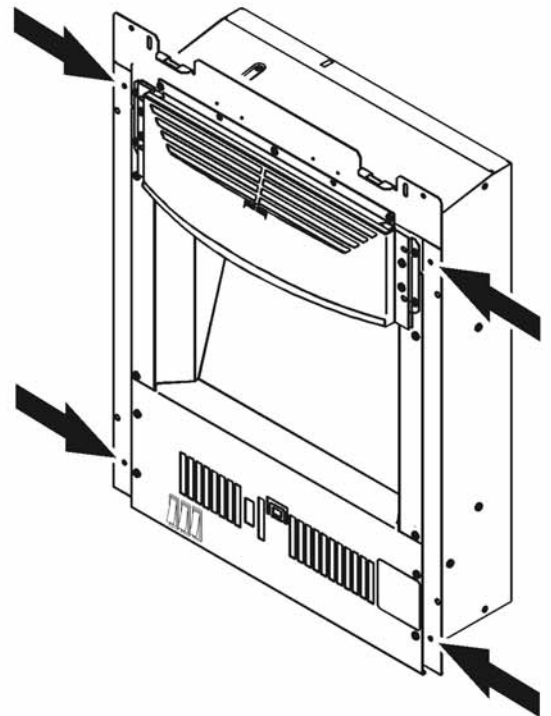

Figure 10. Fitting the optional spacer frame to the heater
Although this section deals with fireplace openings without a spacer, this method of securing the heater can also be used with the spacer frame supplied with the heater (See point 7 and figure 9 of method C). It can also be used with the optional spacer frame (See point 7 and figure 10 of method D).
1. There are four screws supplied with the optional spacer frame. The narrow flange of the optional spacer should be placed against the spacer supplied with the heater. Screw the optional spacer frame to the one supplied with the heater (See figure 10).
7. Secure the spacer frames to the heater using four No.8 x 3/8 screws supplied (See figures 10 and 4).
1. Secure the spacer frames to the heater as in steps 1 and 7 of METHOD D (See figure 10).